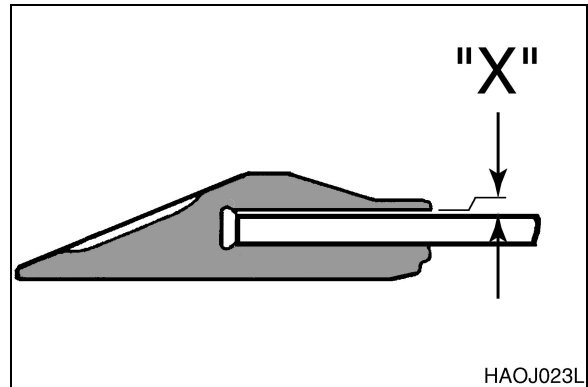

Figure 5
4. Slide the new tooth into position and insert shims. Shim tooth until gap is less than "X" [0.5 mm (0.020 in.)]. See Figure 5.